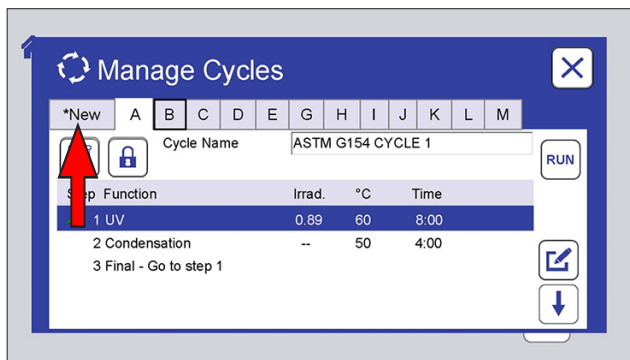
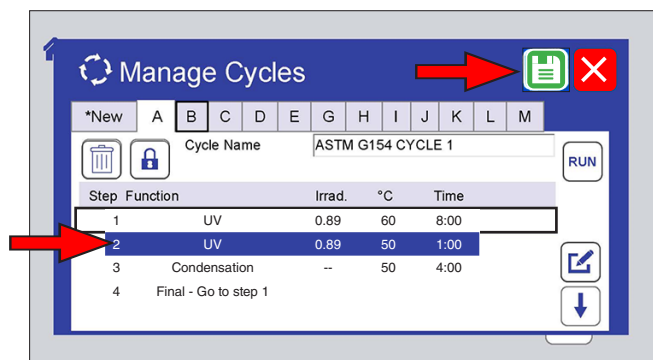

Figure 11.6.7a: To create a new cycle, touch the *New tab.
Figure 11.6.7e: Follow Figure 11.6.4a through Figure 11.6.4h to add steps and save the new cycle.
- o Create a new cycle (Figure 11.6.7a through Figure 11.6.7e).